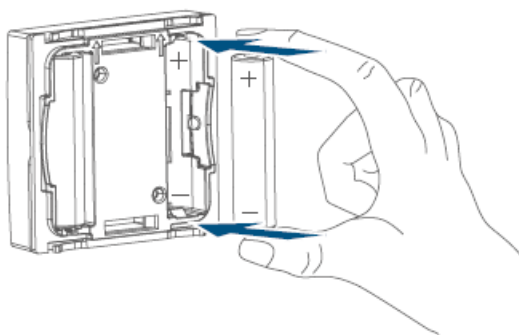

Figure 8
- Once mounted, the sensor can easily be pulled out of the frame (A) or removed from the mounting plate (D). To remove the sensor (B) from the frame, take hold of the sides of the sensor and pull it out. (see Figure 8). You do not need to open the device.